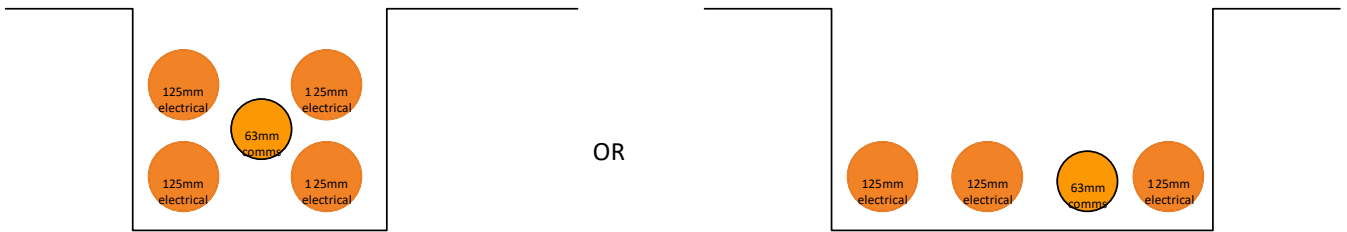

FIGURE 1. TYPICAL CONDUIT INSTALLATION DETAILS
- f. Communications conduits will also be provided by default with HV buried cable or conduit installations. The typical configuration is as shown in Figure 1 below: